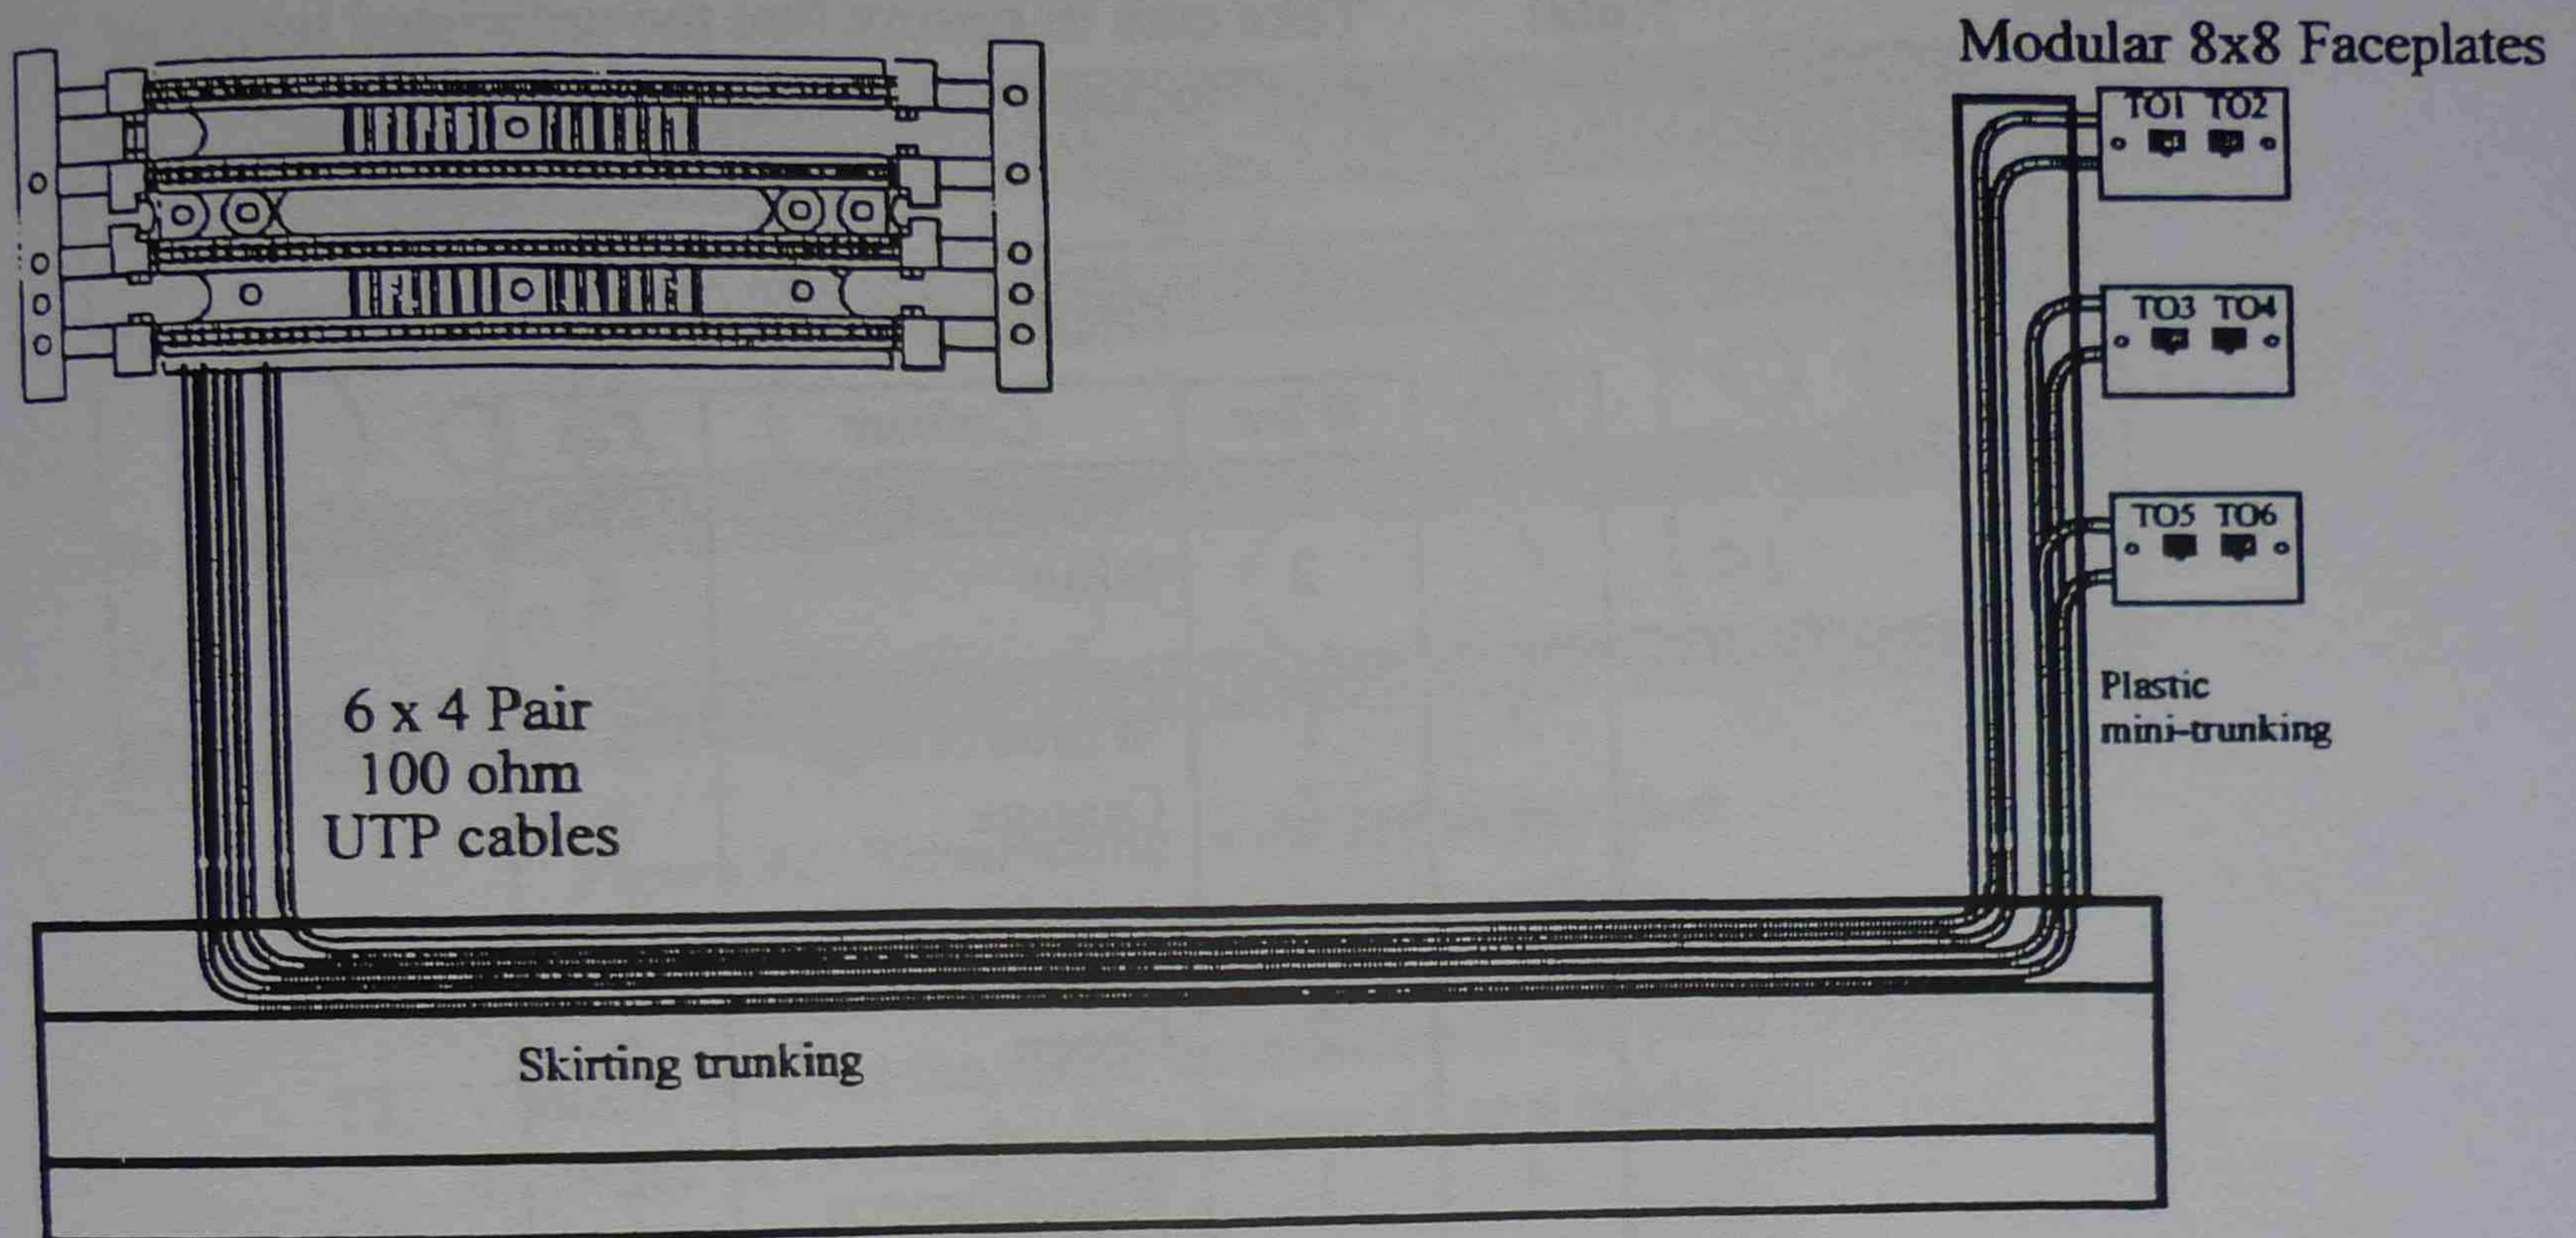

Figure 39 Setting out the work board
1. Secure the mounting blocks, skirting trunking and plastic trunking to the work board using Figure 39 as a guide.
2. Fix one 100 pair 110 wiring block onto the left side of the work board using the necessary tools and hardware. Use Figures 39 and 40 as a guide for positioning the blocks.
4. Install two 4 pair Category 5 cables between each mounting of the 110 Block. Use Figure 39 as a guide.